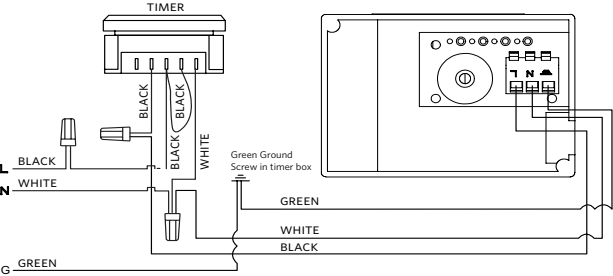

FIG. 2 Astro 2 Series circulator and 24-Hour Timer wiring diagram
- 2 Unfasten the mounting 2 screws (4) and remove the terminal box cover (3).
- 4 Connect power supply wires (black, white and green) to the timer unit and to the circulator terminals (as shown in **FIG. 2**).